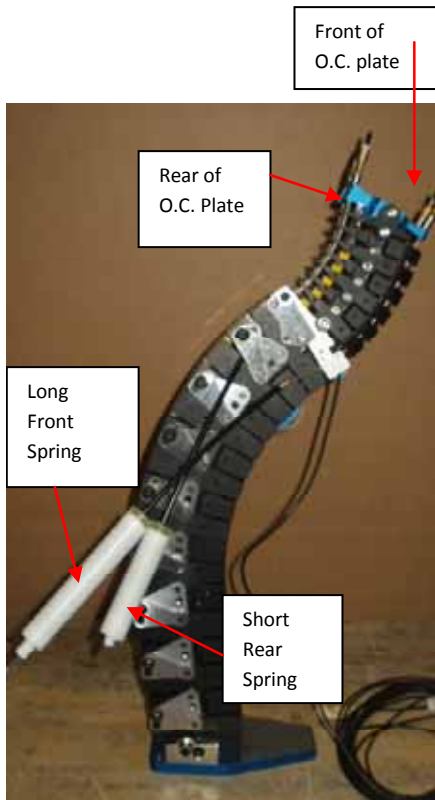
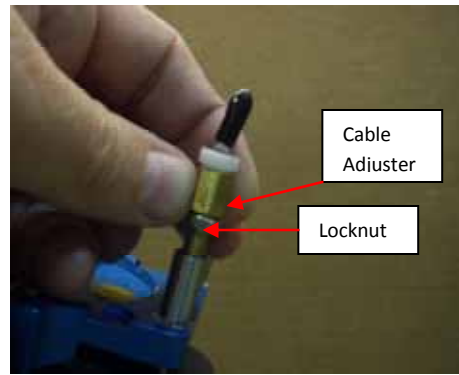
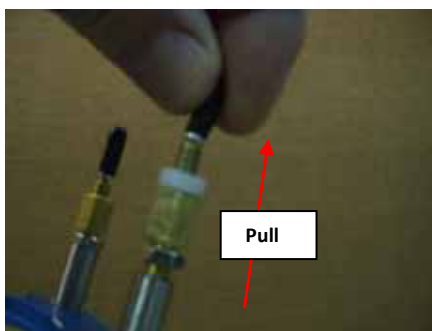
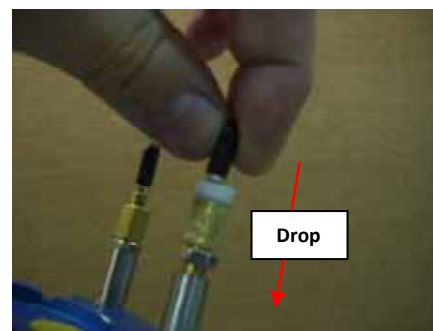

Figure 70 - Cervical Spine Setup
Figure 71 - Adjust Cable Adjusters Down
Figure 73 - Check for Slack - Pulling up
Figure 74 - Check for Slack - Dropping
1. Spine is placed on bench top (Figure 70). Both front and rear upper spring cable adjusters (Figure 71) are adjusted all the way down and locknuts are loose. Damper cable adjusters are also loose and cable is not clamped to damper.
3. Remove slack or free play from cables by turning (Figure 71) upper front and rear cable adjusters upward until slack on both cables is gone, but so that no tension is added. Check amount of slack or play during this procedure by pulling up on (Figure 73) and allowing to drop (Figure 74) both cables where they exit the upper adjusters, until play is gone after adjustments. Be careful not to add tension.